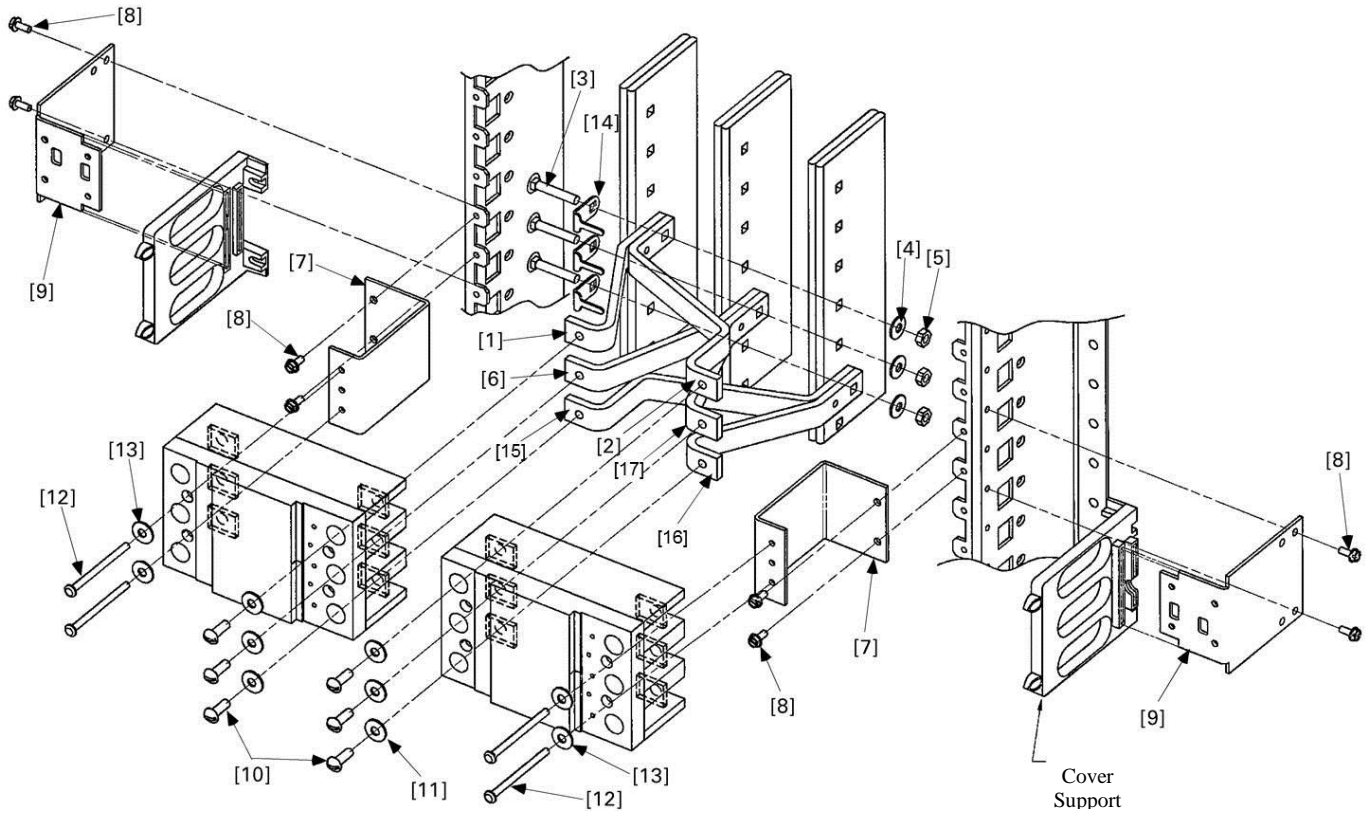

Figure 1. Mounting TQD and THQD circuit breakers into Spectra APNB bolt-on interiors.
- 3. Install the circuit breaker straps.** For three-phase applications (kit AMCB6QD), begin installing the breaker straps with the A or C phase poles, as shown in Figures 1 and 2. Slide an antiturn clip [14] over the square shank of a carriage bolt [3]. Insert the carriage bolt assembly into the appropriate square hole in the bus, so that the pin of the antiturn clip rests on the front of the bus. Place the square holes in the inner strap [1] and outer strap [2] over the bolt so that the pin of the antiturn clip fits into the small holes on the straps. Secure the assembly to the vertical bus with a conical spring washer [4] and nut [5], leaving the connection finger tight. Repeat the process for the center pole straps [6 & 17] and the other end pole straps [15, 16].
For single-phase panels, dc applications, and phase-balancing purposes (kit AMCB4QD), Table 2 lists the possible configurations. Align the appropriate strap assemblies [1, 2, 6, 15, 16, & 17] with the corresponding holes in the vertical bus, as shown in Figures 1 and 2. Fasten each strap assembly loosely to the vertical bus with a carriage bolt [2], conical washer [3], and nut [4], as described for the three-phase kit. When installing any of the two-pole strap configurations in Table 2, be sure to install the straps in standard phase-rotation order. When installing a two-pole and a three-pole breaker in a double-branch assembly, arrange the straps in the typical three-pole configuration, as shown in Figure 1.
- 4. Install the circuit breaker mounting brackets and cover supports.** Attach the inner breaker mounting brackets [7] to the panel side rails with thread-forming screws [8], as shown in Figure 1. Tighten the screws to 35 in-lb. Slide the uppermost slot on the cover supports (supplied with the breaker cover kit), with the mounting tabs oriented inward, onto the outer mounting brackets [9] until they snap into place. Cover supports can be easily removed by inserting a screwdriver blade into the slot on the underside of the mounting bracket assembly and gently prying downward while pushing the support off. Install the completed outer mounting bracket assemblies on the panel side rails with thread-forming screws [8], as shown in Figure 1. Tighten the screws to 35 in-lb.